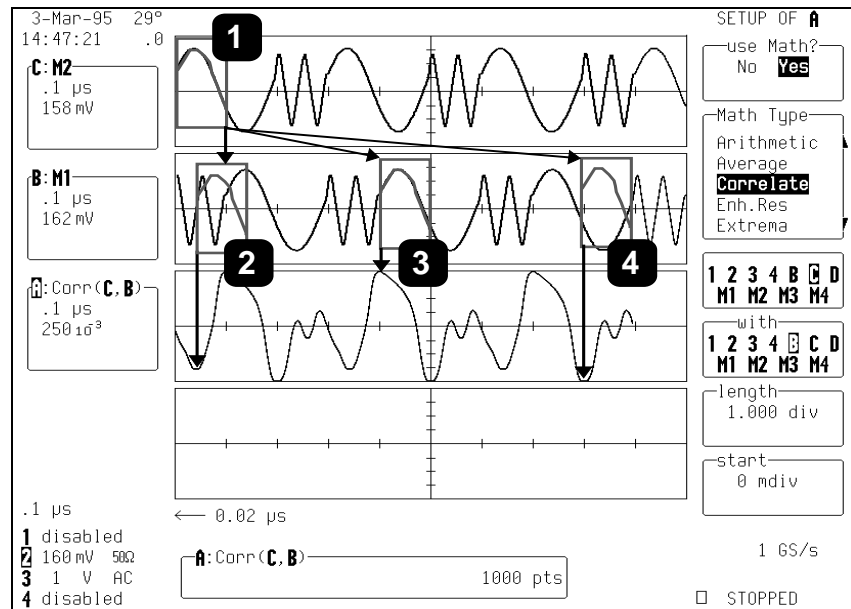

Figure 8.5
Figure 8.5, below, shows the resulting correlation waveform: the waveform section is selected from Trace C, “with” Trace B. A correlation waveform very different from that of the preceding figures appears. Again, the annotated boxes show the selected Trace C waveform section (❶) overlaid on different sections of the Trace B waveform (❷, ❸, ❹).